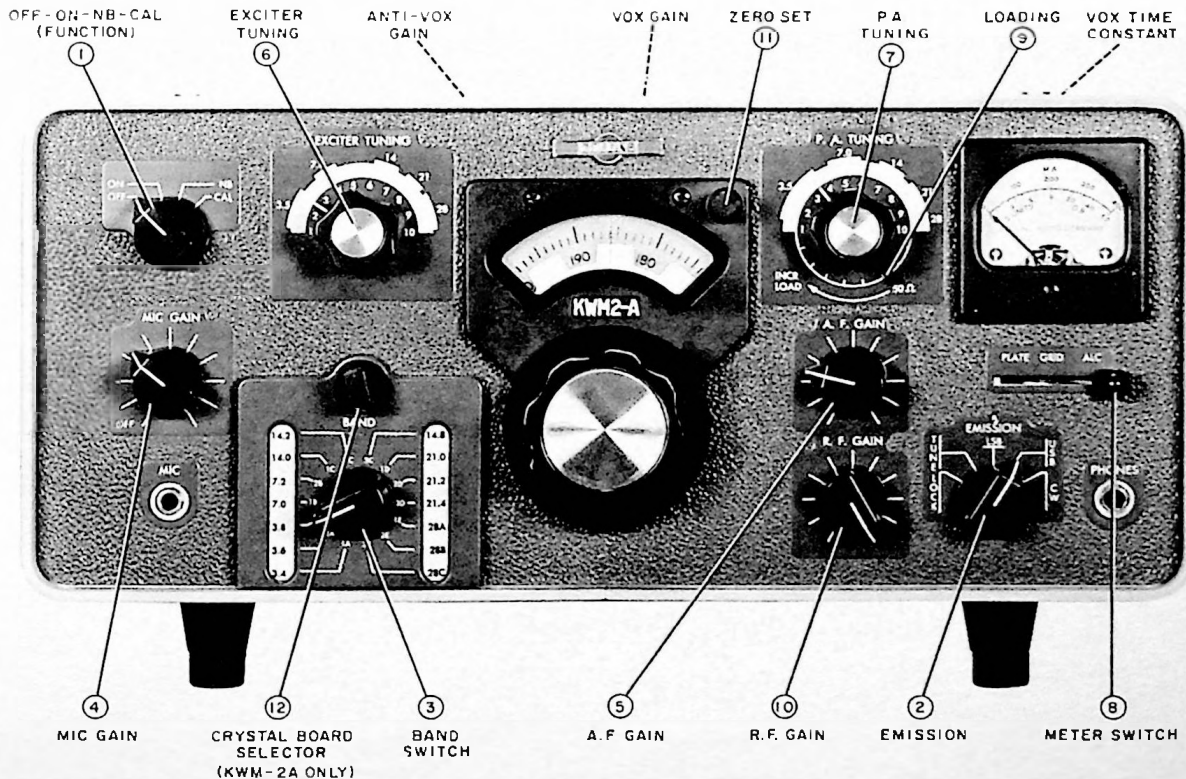

Figure 2-1. Operating Controls
1.3 Initial Checks. (Refer to figure 2-1.)
- a. Refer to figure 2-1. Set function switch(1) to ON. This is the switch labeled OFF-ON-NB-CAL. See table 2-1.
- b. Set EMISSION switch (2) to desired sideband (USB or LSB position). Set BAND switch (3) to desired band. If KWM-2A, set crystal board selector (12) so desired set of bands appears in window.
- c. Set the MIC GAIN control (4) full counterclockwise. Set R.F. GAIN control (10) full clockwise.
- f. Adjust the A.F. GAIN control (5) until some receiver noise is heard in speaker.
g. Adjust the EXCITER TUNING control (6) to white portion of scale indicating the desired band. Rock this control slightly to peak the receiver noise output. The transceiver is now ready to receive and the selected 200-kc band may be tuned with the tuning control. Dial frequency can be determined by adding the dial reading to the BAND switch setting.